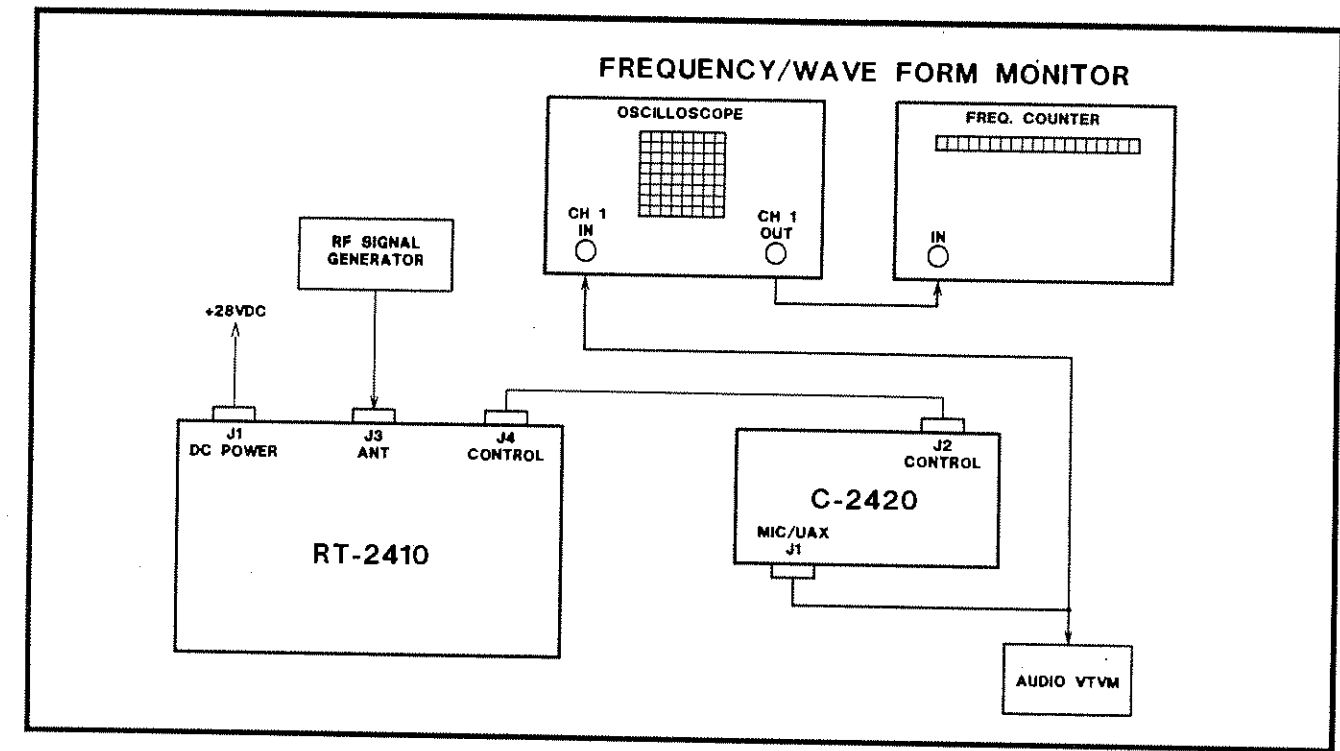

Figure 5.6.1 Receiver Alignment Test Equipment Connections.
WARNING: The adjustments called out in the following alignments are all that should be attempted. Any other adjustments not called out are factory adjustments and cannot be done in the radio set. See Figure 5.6.1 for test equipment connections.
See Figure 5.6.1 for Test Equipment Connections.
- c) Connect the Audio Voltmeter to the handset audio on the MIC/AUX connector on the C-2420 front panel (J1). J1-B is the handset audio line. J1-A is the ground. Connect oscilloscope Channel 1 input to audio voltmeter input. (See Figure 5.6.1)